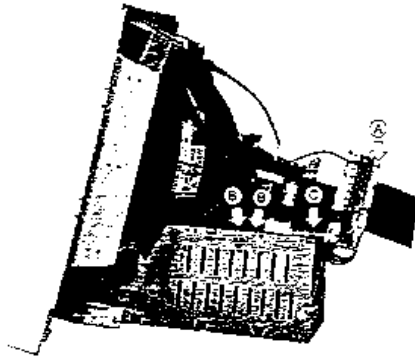

Figure 2-5 Remove the Neck Board & the Main Board
1. Disconnect the ground wire from the neck shield. Refer to the figure 2-5 (A).
2. Remove the two connected pins from the main board. Refer to the figure 2-5 (B).
3. Release the cord crammer. Refer to the figure 2-5 (C).